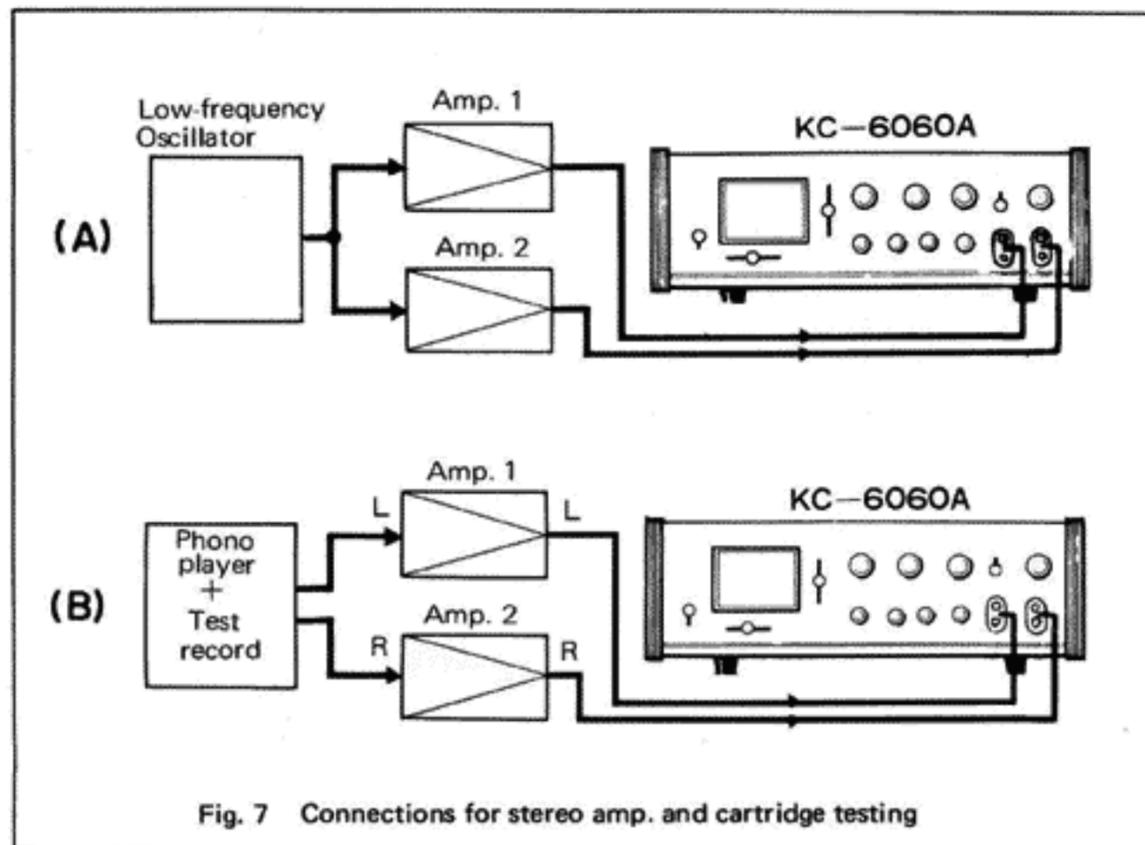

Fig. 7 Connections for stereo amp. and cartridge testing
(A) and (B) in Fig. 7 illustrates how to check an amplifier or phono cartridge for frequency response. With SELECTOR switch in "WAVEFORM", use the Audio Frequency Oscillator. Apply 1 kHz test signal and deflect it for 40 mm amplitude. Swing the test frequency up and down to find the level at which the amplitude decreases to 28 mm ($= 1/\sqrt{2}$ of 40 mm). This level is the -3 dB point.
When testing a phono cartridge, shown in Fig. 7 (B), a frequency test Fig. 8 (A) will prove useful. If a flat response is noted with the use of such a record, it means that the cartridge has a flat characteristic of response, provided that equalization is accurately established.
The following is the method of determining the difference in phase angle between two signals being fed in simultaneously. For the signal source, use a frequency test record or audio oscillator, and set-up scope as in Fig. 7 (A) for testing two amplifiers or in (B) for testing a stereo cartridge.
In Fig. 7 (B), the amplifiers should be set by means of respective tone control to present as flat a frequency characteristic as possible. If there happens to be a phase difference between the two amplifiers over the measured frequency range, it must be noted, that the measurement taken is, the sum total of differences between the amplifiers and in the cartridge itself.